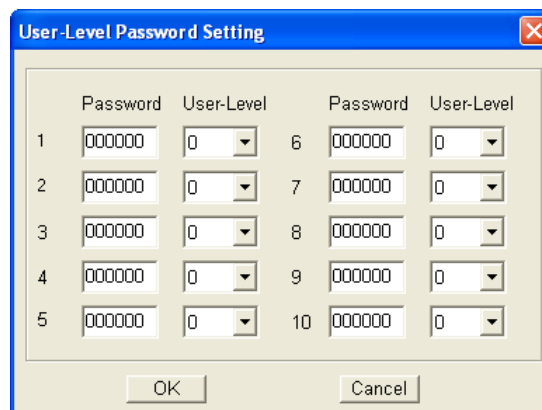

Figure 5-17 **User-Level Password Setting** window
**User-Level Password Setting** is used to set passwords belonging to different levels. After users click **User-Level Password Setting** on the **Global Setting** menu, the **User-Level Password Setting** window will be opened, as shown in Figure 5-17. If a user level is set for an object, the users are asked to type a password when the function key corresponding to the object is pressed. After the users type a password belonging to the user level set, or a password belonging to a higher user level, the object corresponding to the function key pressed will be enabled. If the value selected in a **User Level** drop-down list box is 0, there will be no user level. The user levels arranged in ascending order are 1~4. The password typed in a **Password** box must be composed of six numerals. 000000 can not be a password.